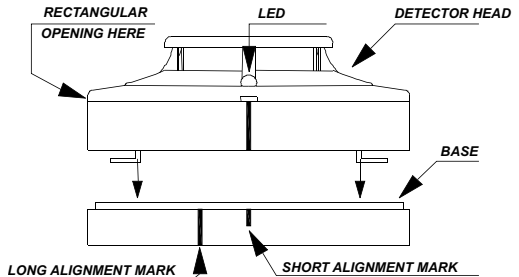

FIG. 2 Mating detector head onto base
- Align the components as shown in Fig. 2.